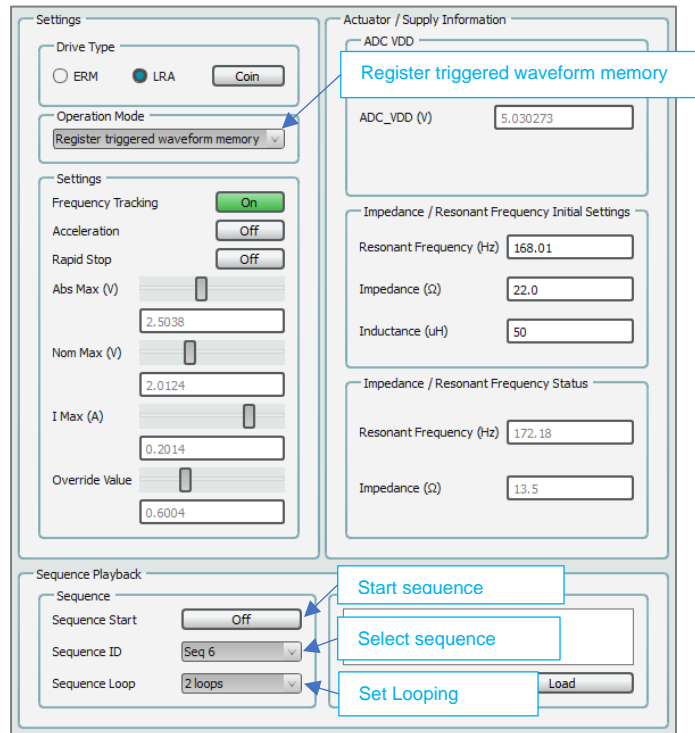

Figure 42. SmartCanvas DA728x GUI in RTWM mode
1. In DA728x GUI, go to **DA728x > USER > Settings**, under **Drive Type**, select **LRA** (Figure 42).